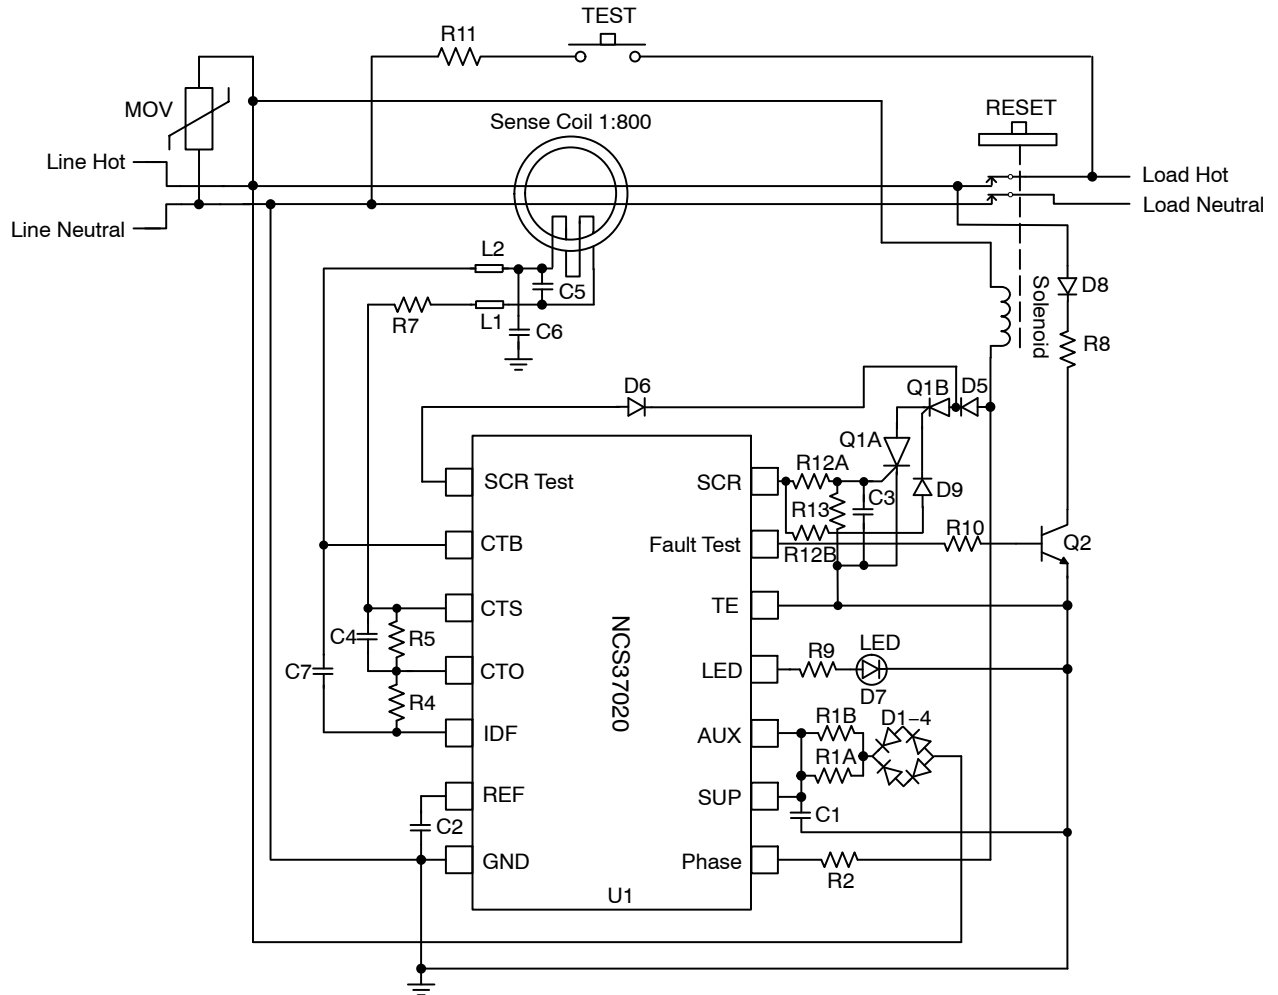
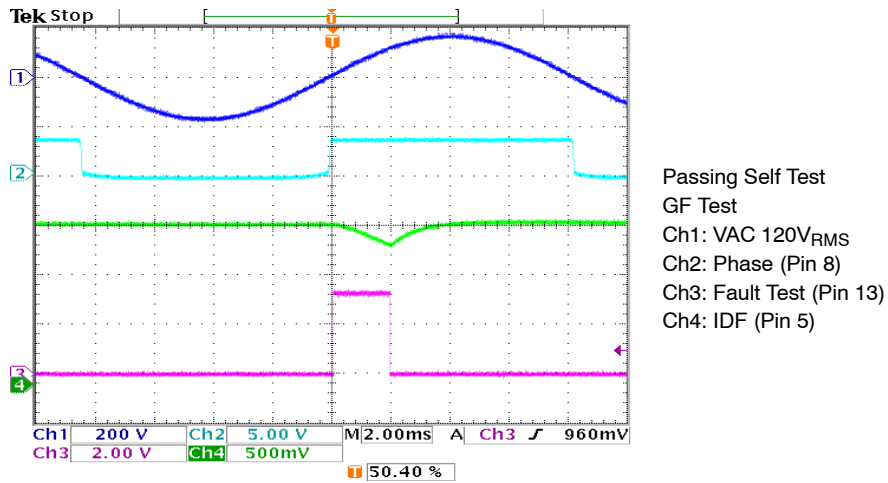
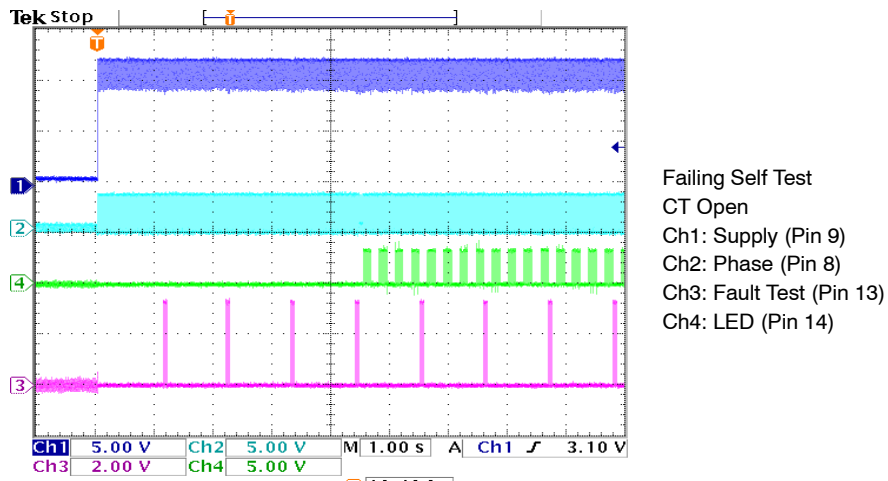
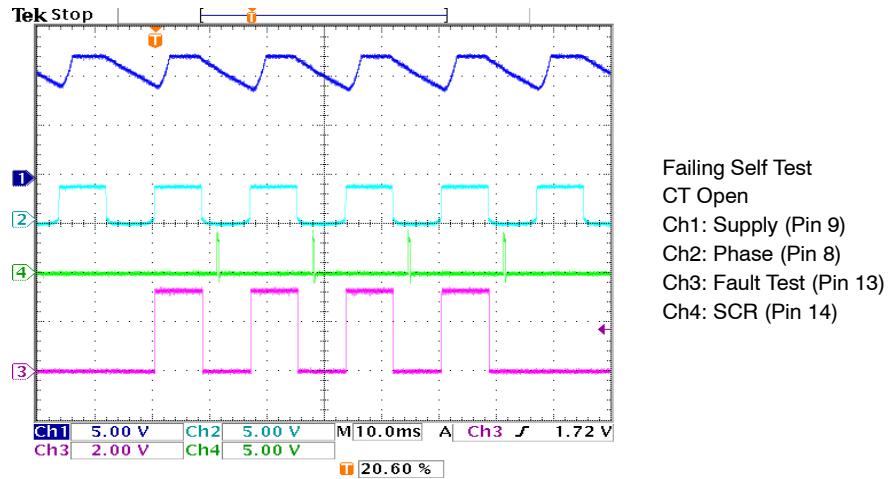

Figure 2. ALCI Application Diagram*
Figure 4. Passing Self Test - GF
Figure 6. Failing Self Test – CT Open
Figure 7. Failing Self Test – CT Open
Table 4. OPERATING RANGES (Unless otherwise noted, ISUP = 3 mA, Phase input = 60 Hz, Refer to Figure 2)
Functional Description (refer to application circuit, Figure 2)
The internal shunt regulator clamps the SUP pin voltage at 12 volts. This provides the bias voltage for the analog and digital internal circuitry via two 3.3 V linear regulators. The NCS37020 controller can be biased full wave or half wave. Figure 2 shows a half wave bias application. Half wave bias allows for lower wattage bias resistors (R1A and R1B) and less redundant bias diodes. The D1–4 diodes are biased so that only during the positive half cycle the capacitor C1 will be charged to 12 volts. During the negative half cycle, C1 will supply the bias current for the NCS37020. To minimize the NCS37020 bias current during the negative half cycle, the SCR and LED outputs will only be enabled during the positive half cycle. The D1–4 diodes and R1A–R1B resistors include redundant components to pass the UL943B standard.
The first self-test (ST) cycle will occur at one second and thereafter every 12 minutes. During the ST cycle, the Fault Test pin will be enabled during the positive half cycle and the CT current (set at 12 mA, R8) will be verified. During the next negative half cycle, the SCR’s anode voltage will be pre-biased by the SCR Test pin to 3.3 volts. The SCR will then be enabled and the SCR’s anode voltage will be monitored by the SCR Test pin. If the anode voltage goes below 2.1 volts, the SCR will be disabled after a 400 μs verification check and the ST logic will register a passing ST cycle. Figure 2 shows two SCRs in series. A redundant SCR is required during the SCR anode to cathode short test to prevent the solenoid from burn out damage. The SCR self-test cycle will fail if either SCR Q1A or Q1B are open. If either Q1A or Q1B are shorted (anode to cathode) the ST cycle will pass, however, the GF function will also function correctly. The next ST cycle will occur in 12 minutes. Note that when the SCR is enabled, the blocking diode D5 will prevent the solenoid from being energized and opening the load contacts. If either the GF (ground fault) or SCR self-test cycles fail, these self-test cycles will be repeated for up to three more consecutive cycles. If any consecutive GF and SCR tests pass, the ST logic will register a passing self-test cycle. If all four ST consecutive cycles fail, a ST cycle will be repeated at 2, 3 and 4 seconds for a total of 16 self-test cycles. If all 16 ST cycles fail, a ST EOL fault will occur. The SCR will be enabled for four consecutive positive half cycles, then the LED will blink at 4 Hz. The LED will only be biased during the positive AC half wave cycle. The SCR will be enabled for one positive half cycle every 4.5 seconds. A self-test cycle will occur every second. If a self-test cycle passes, the ST EOL logic will be reset (power on reset state). If a ground fault is detected during a ST EOL state, the EOL logic will be reset. This allows for resetting the ST EOL state by pressing the manual test button when the load contacts are closed.
Figure 4 shows a passing self-test ground fault test. This test checks for the CT and bias circuitry. Channel 1 shows the VAC 120 V_{RMS} , 60 Hz Line Voltage. Channel 2 shows the positive and negative phase half wave cycles. Channel 3 shows the Fault Test signal and channel 4 shows the IDF signal (CTO output). The self-test cycle starts in the positive half wave cycle. The Fault Test pin goes high and Q2 (Figure 2) is enabled. Enabling Q2 generates a GF signal via R8. The IDF signal is the CTO amplifier output which is a GF current to voltage signal per the equation on the previous page. When a 5 to 15 mA GF signal is detected, a “passing GF test” is recorded and the Fault Test signal is disabled.
After a passing self-test cycle per Figures 4 and 5, the next ST cycle will occur in 720 seconds.
Figure 6 shows a failing ST cycle for an open CT. Channel 1 shows the NCS37020 supply voltage. Channel 2 shows the phase pin. Channel 3 shows the Fault Test signal and channel 4 shows the LED (End of Life) signal. The first four consecutive ST cycles occur at about 1.1 seconds, then at 2.2, 3.3 and 4.4 seconds. After the 16th consecutive cycle failure, the SCR is enabled for four positive half cycles and then the LED is enabled.
Figure 7 also shows a failing ST cycle for an open CT. It is a zoom figure for the first four consecutive ST cycles. It shows the same waveforms as Figure 6 but channel 4 shows the SCR pin. Comparing Figure 7 with Figure 4, it can be observed that the Fault Test pin is enabled for the complete positive half wave cycle because no GF signal is detected by the NCS37020.